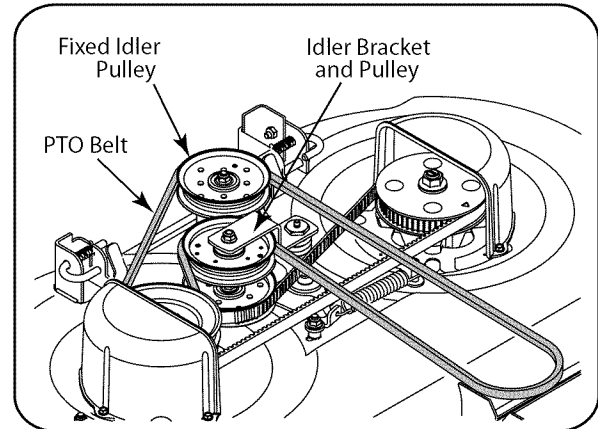

Figure 7-3
- Maneuver the PTO belt downward and off the idler pulley on the spring loaded idler bracket. **NOTE:** It may be necessary to loosen the hex cap screw and flange lock nut securing the pulley to the idler bracket to fit the belt between the pulley and bracket. Slide the belt between the bottom of the idler pulley and top of the timing belt idler pulley below. See Figure 7-3.
- Loop the belt and push out of the V- groove of the drive pulley on the right hand spindle assembly. Lift the belt over the pulley and out from beneath the spindle cover. See Figure 7-3.
- Route the back side of the belt around idler pulley and between the idler pulley and idler bracket. Re-tighten the hex screw and flange lock nut if loosened earlier. Refer to Figure 7-3.
- Route the belt around the fixed idler pulley as shown in Figure 7-3 and re-install the deck as described in "Re-installing the Cutting Deck" later in this section.